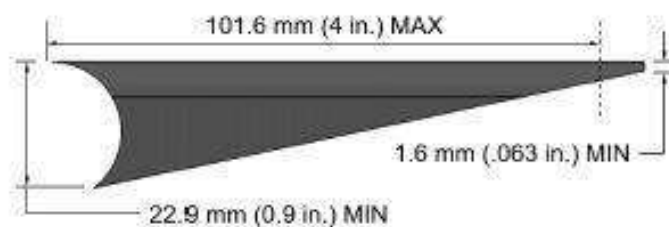

Figure B- 50: Allowable Taper
- Allowable cross-section: Brackets shall have a "C" cross-section. The supporting gussets may be tapered as shown in Figure B-50 and shall be a minimum of 22.9 mm tall at the weld. Flat brackets are not permitted.